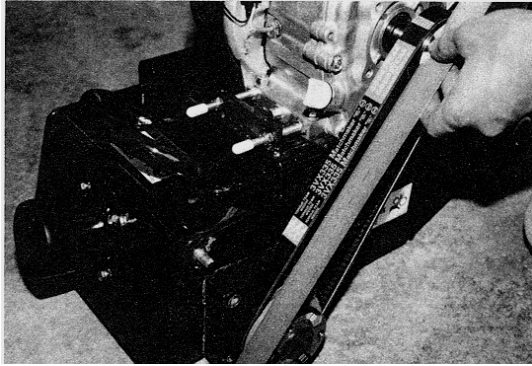

FIGURE 33
5) Belt alignment is checked with the straightedge. Place the straightedge squarely against the driveshaft pulley. Properly aligned pulleys should also place the straightedge squarely against the engine pulley. FIGURE 33. Remove the straightedge and rotate the engine pulley 120 degrees. Recheck alignment with the straightedge. Repeat the process until the engine pulley is rotated a full 360 degrees. Maximum allowable misalignment is $\pm 1/32$ inch. If pulley alignment is not within specifications, refer to INSTALLING A REPLACEMENT V-BELT for specific information.